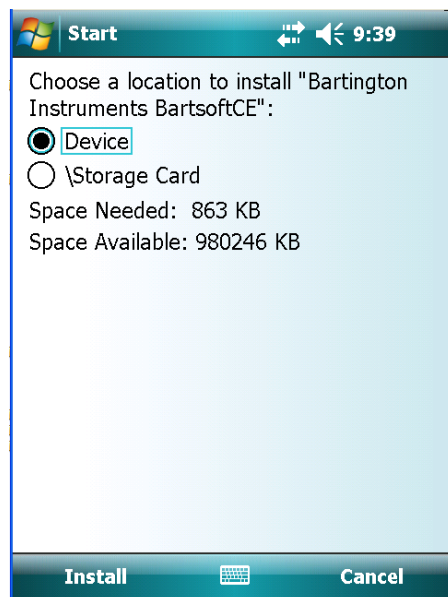

Figure 1: Choosing an installation location
| Figure 1: Choosing an installation location                               | 6  |
**Note:** It is strongly recommended that the application is installed on the device (not on the Storage Card). See Figure 1.